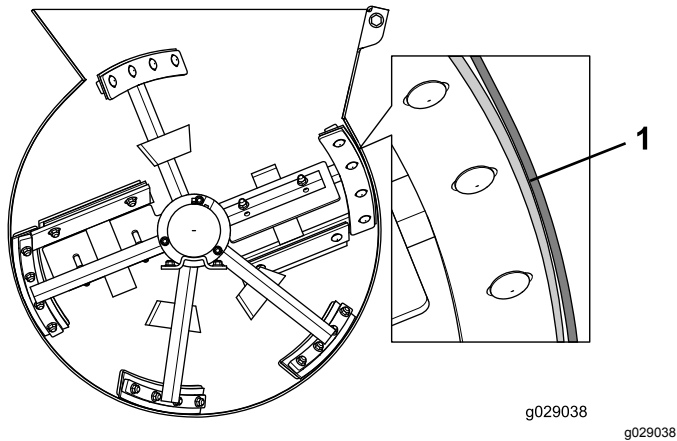

Figure 73
- Adjust the position of the wiper so that the wiper lightly contacts the drum across the length of the wiper (Figure 73).